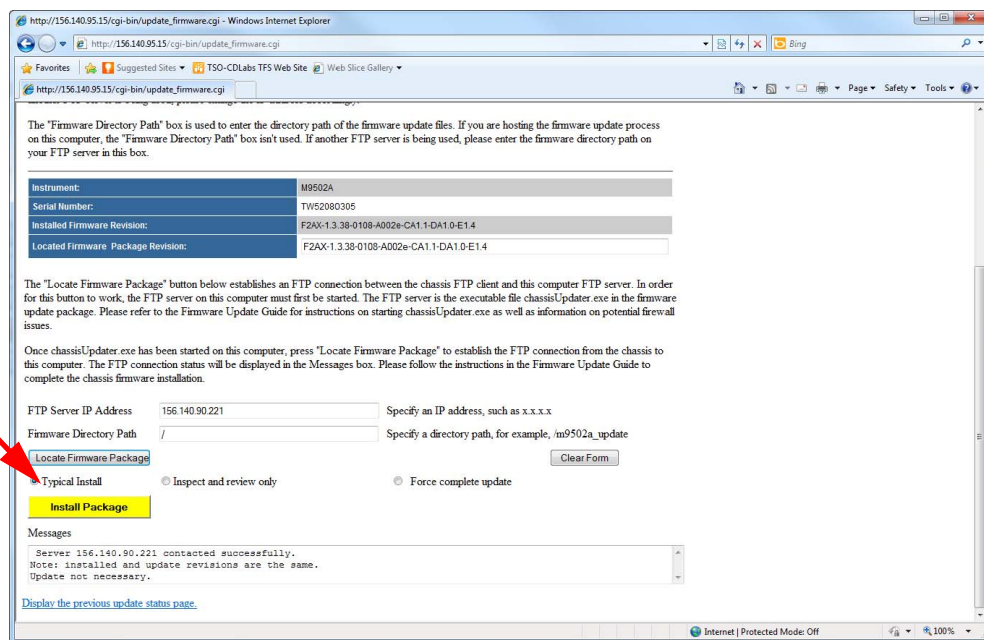

Figure 10 Update Chassis Firmware page (with installation options)
- c. After a few moments, when the utility locates the firmware update package, the page automatically refreshes and provides a choice of installation options (see Figure 10). Note that you may need to scroll to the bottom of the page.